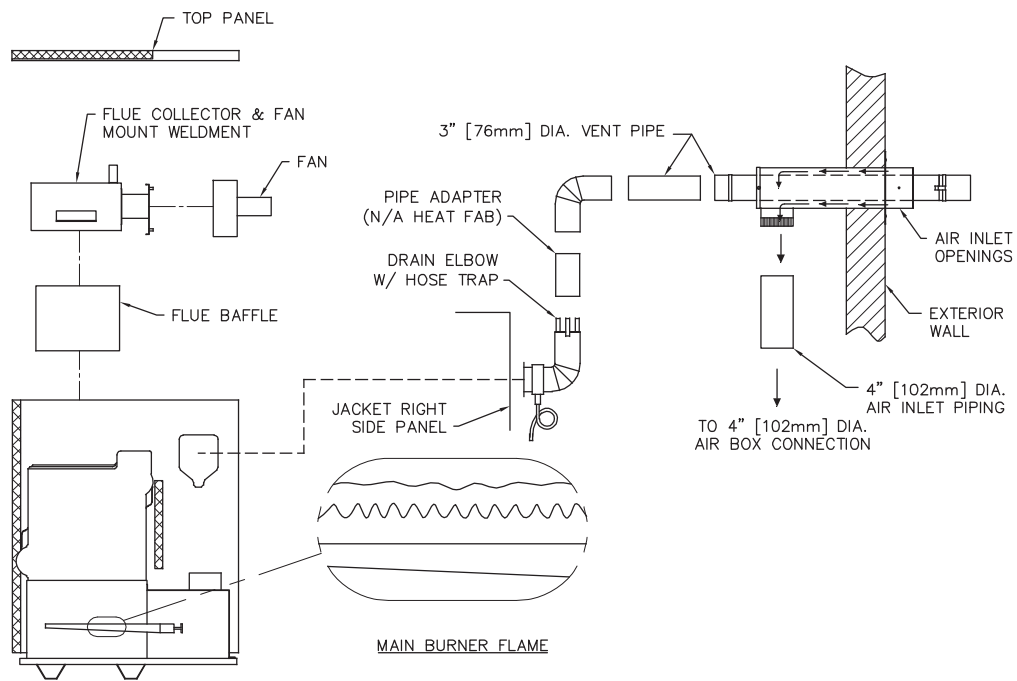

Figure 9.2: Inspection of Flueways, Burners, and Vent System.
1. Inspect flueways, burners and vent system. See Figure 9.2.